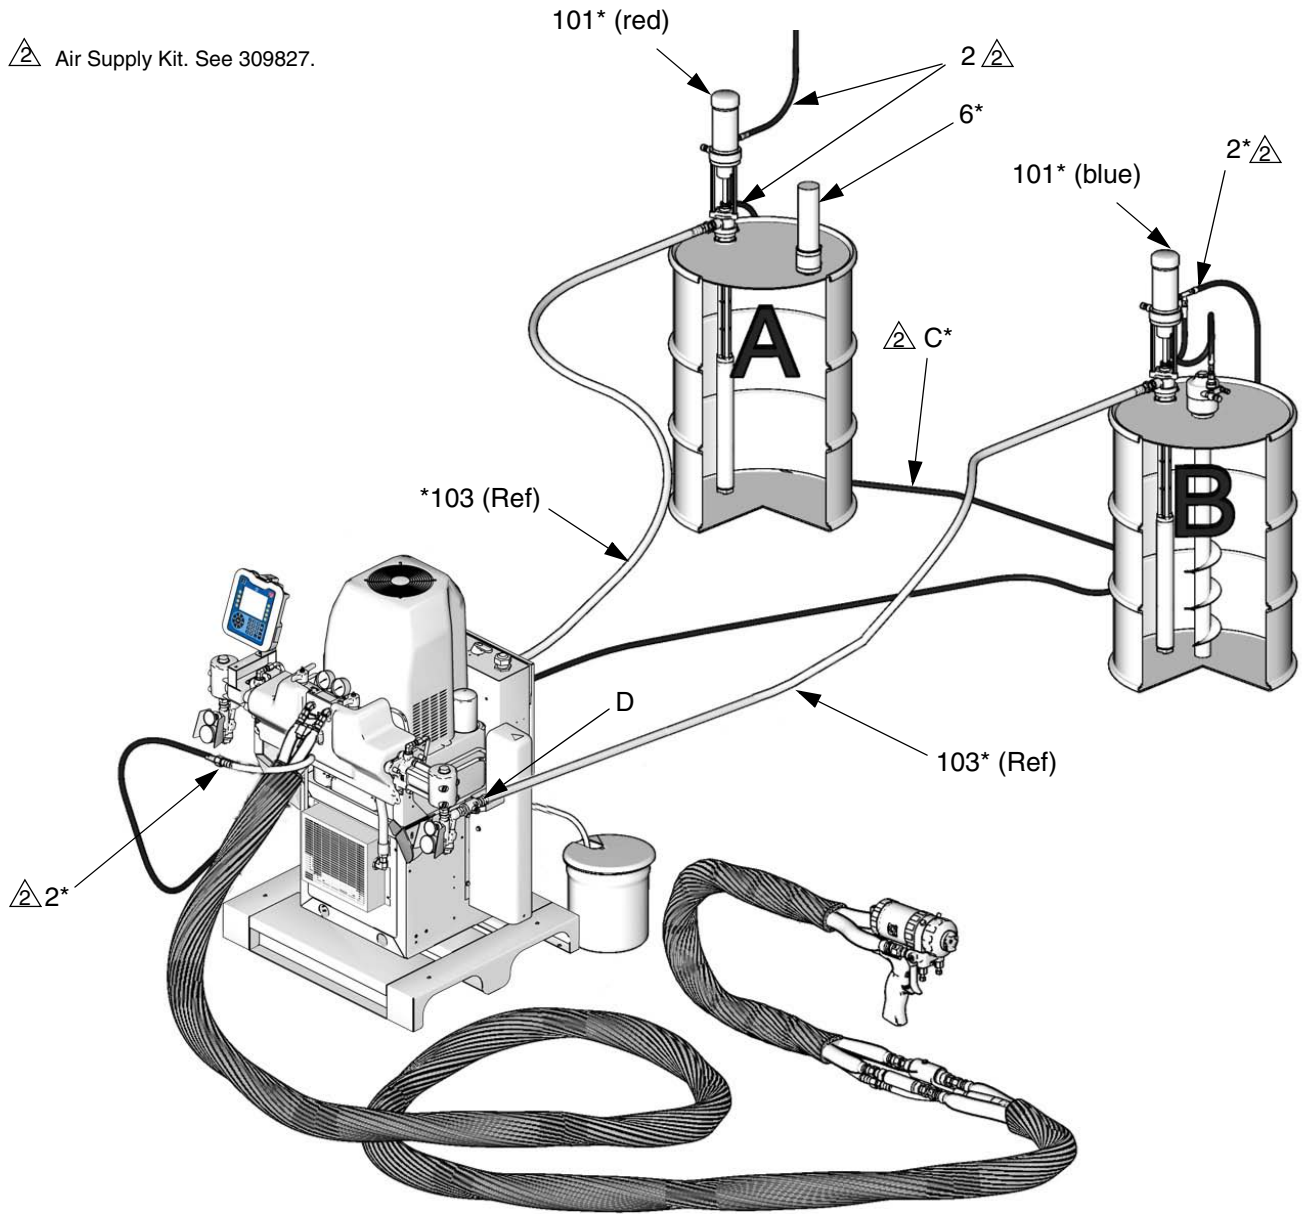

FIG. 1: Installation
Place component A (red) and component B (blue) drums as desired. Air hose (C) connecting feed pumps is 15 ft (4.57 m) long. See FIG. 1.
5. Connect hose (103) between swivel fitting (102) and the system swivel inlet (D, see FIG. 1).